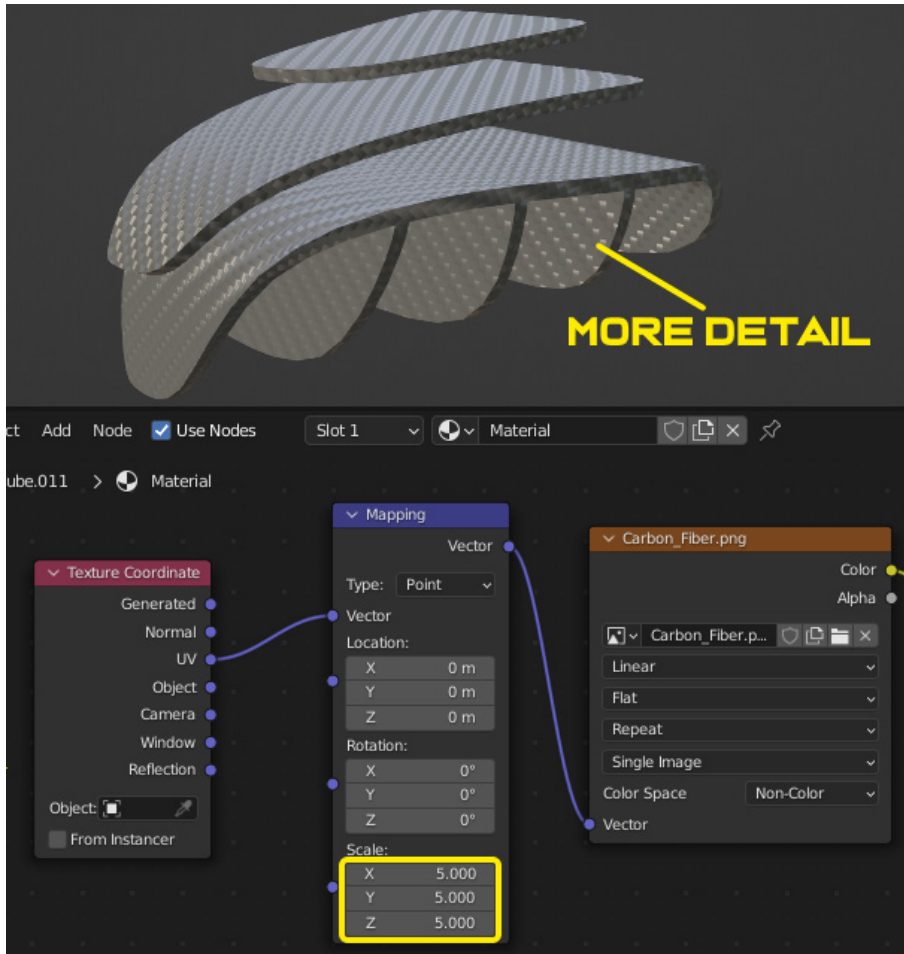

Figure 6.19 – Mapping node
4. Add **Texture Coordinate** and **Mapping** nodes to the material, as shown in *Figure 6.19*, to allow better control over the texture. For example, we can increase the scale of the texture by changing the **Scale** figures in the **Mapping** node: